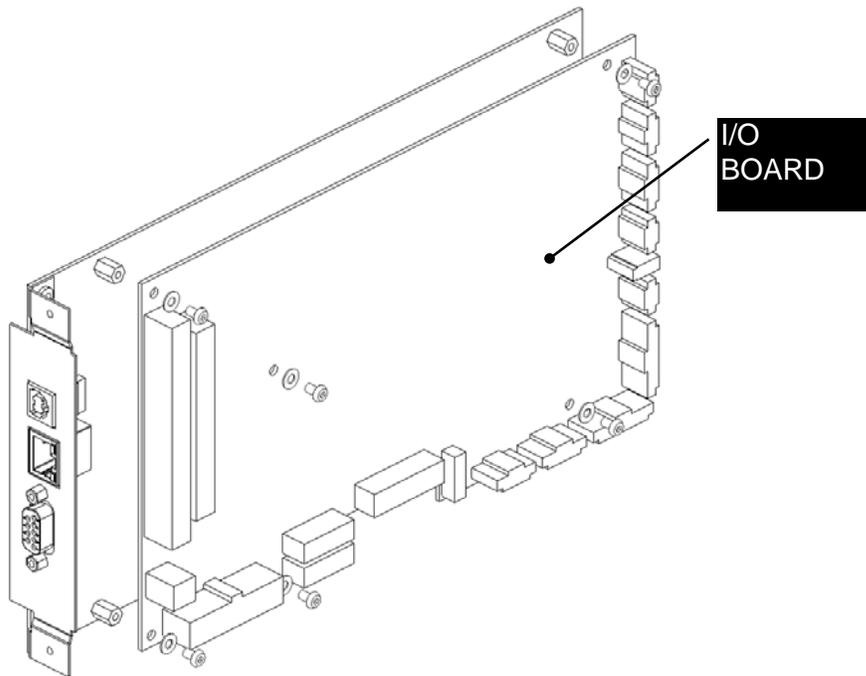

Figure 14-6: Removing I/O board from the Processor Board
3. Remove the I/O board from the processor Board (Figure 14-6).